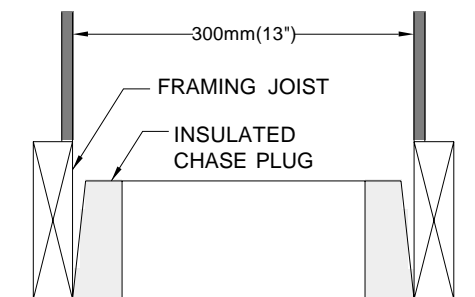

FIGURE 14
1. The Chase Plug is designed and manufactured to maintain the thermal envelope of your house. The Chase Plug must be installed from the bottom side of a 13"(330mm) square opening using 8 -2"(6d) spiral nails. See figure 14.